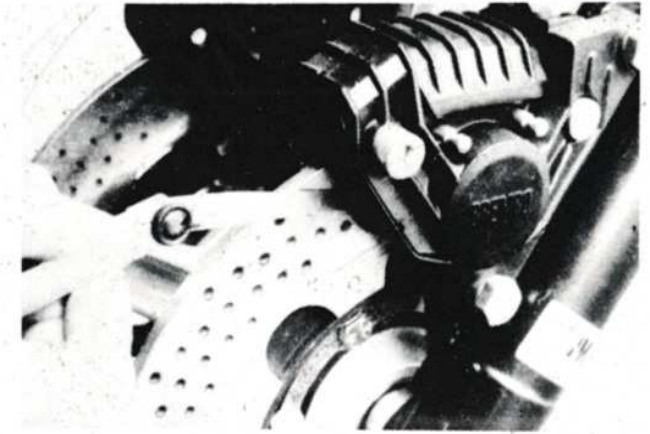

Fig. 62
- Remove the central pin and the spring from each caliper and remove the brake pads. Do not mix the pads because if their condition is satisfactory, each pad should be fitted in the same position in which it was prior to removal. Fig. 62